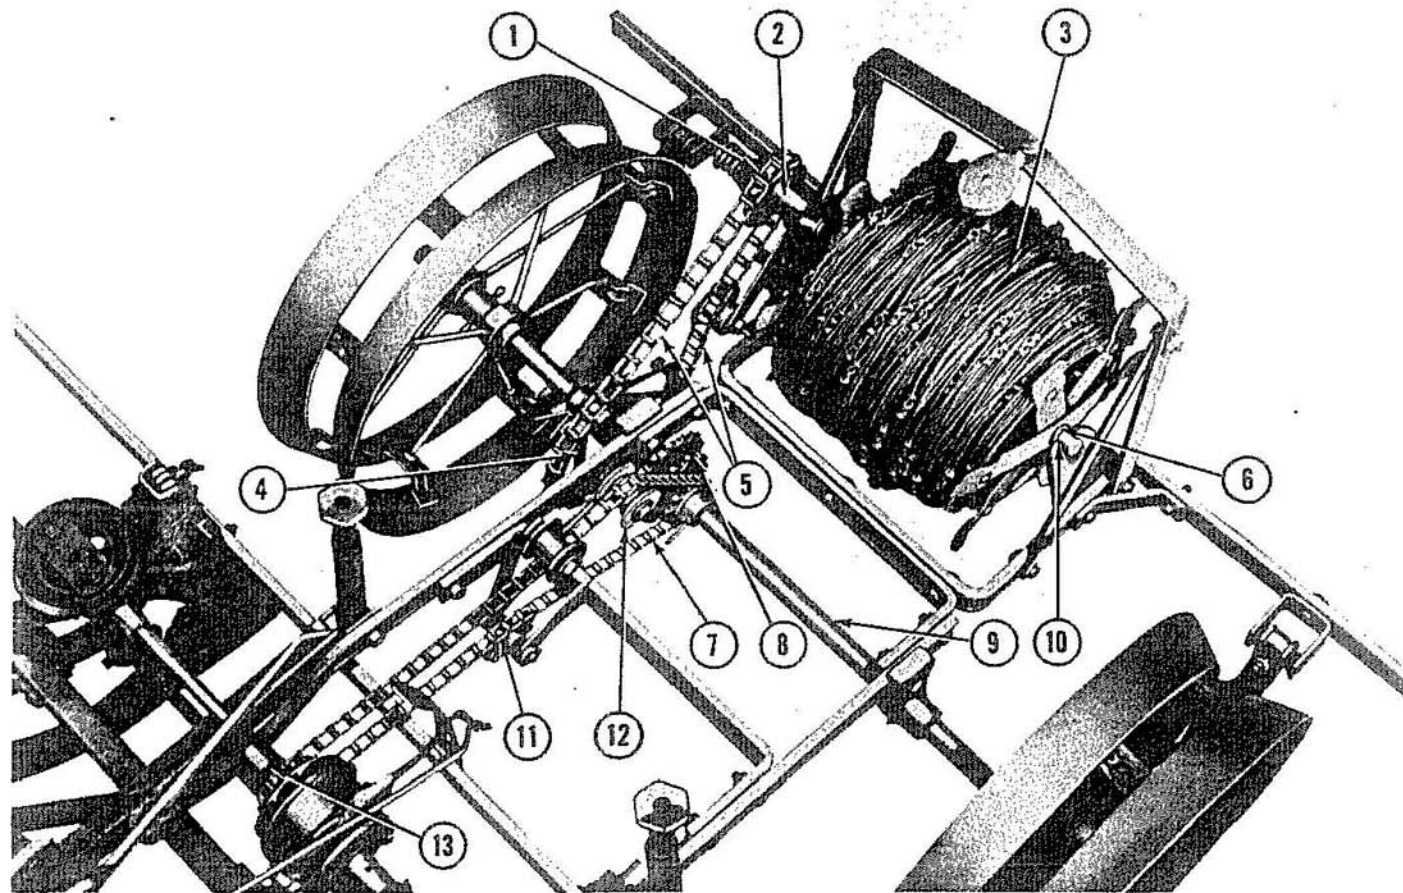

Figure 4
11. Position the reel (3), Figure 4, between the reel brackets so that the wire unwinds from the top of the reel. Insert the reel shaft (10) in the reel so
- that the square end fits in the sprocket housing (2) and the left end is in the slot on the left reel bracket. Push the reel shaft (10) as far to the right as possible so that the collar (6) is inside of the reel bracket. Secure each side of the reel (3), to the reel shaft (10) with the pins provided.
12. Attach the reel drive chain (5), Figure 4, between the sprockets (1) and (4) and position the idler under the lower strand of the chain as shown. Position the chain on the sprockets so that the open end of the links run forward over the sprockets.
13. Attach the planter drive chain (7), Figure 4, between the desired drive sprocket (8) on the wheel axle (9) and the desired driven sprocket (13) on the seed shaft:
- a. Place the chain so that the open end of the links runs forward over the top of the sprockets. Run the lower strand of the chain (7) over the sprocket idler (11), Figure 4, and under the frame cross member as shown.
- b. Remove the extra chain links as necessary to give the chain proper length and tension. Link the free ends together and place the top strand over the roller idler (12), Figure 4. Save any extra chain links.
- c. Align the drive sprocket (8), Figure 4, with the idler assembly and the driven sprocket (13). Secure the sprocket to the axle (9) with the cotter pin provided.